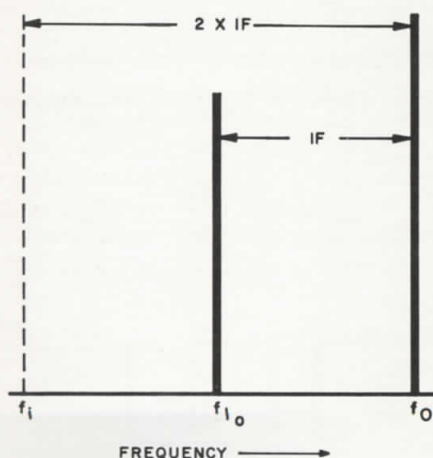

Figure 8. Image Frequency
Using the 230A Power Amplifier, IF rejection tests are made on receivers where this rejection is extremely high (in the order of 100 db or more). The image frequency (F_i) is that frequency which is twice the intermediate frequency (IF) away from the desired signal frequency (F_o), in the same direction as the local oscillator (F_{lo}). See Figure 8.